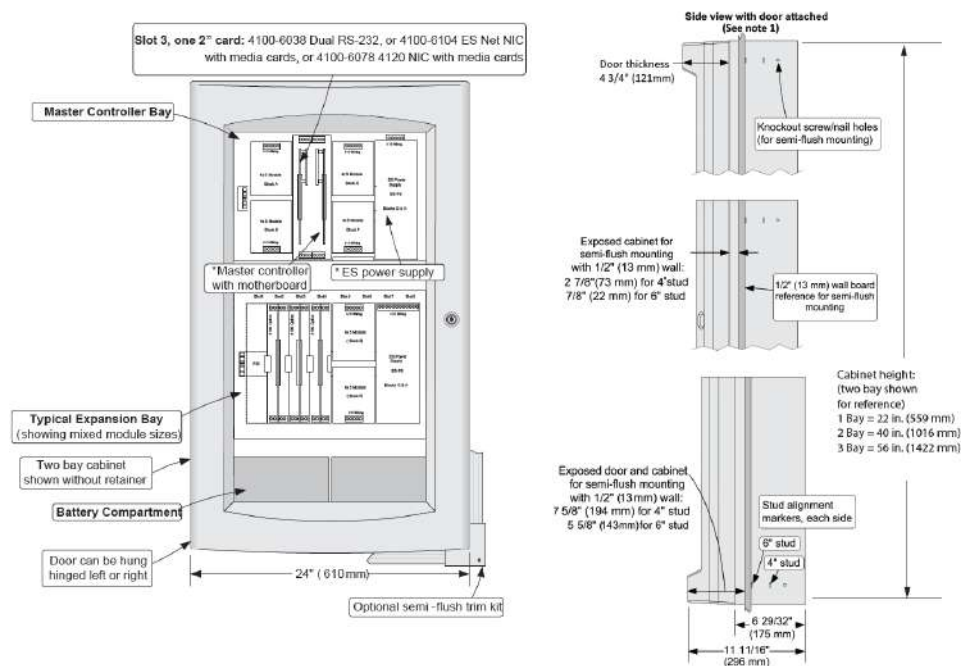

Figure 14: Mounting and CPU Bay Module Reference
- Asterisks (*) in Figure 14 indicate supplied modules.